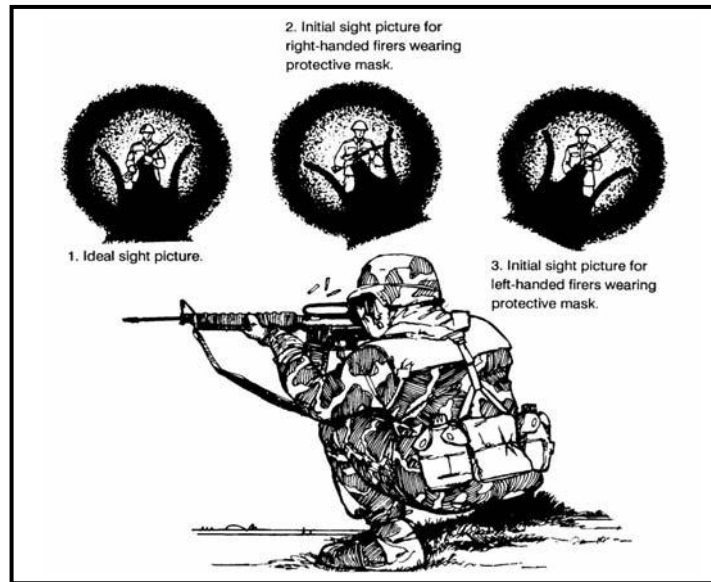

Figure 7-18. Sight picture when canting the rifle while wearing a protective mask (75-meter target).
(2) **Aiming.** Wearing a protective mask may force firers to rotate (cant) the rifle to see through the rear aperture. The weapon should be rotated the least amount possible to see through and line up the sights. The center tip of the front sight post should be placed on the ideal aiming point. This ideal aiming procedure (Figure 7-18) should be the initial procedure taught and practiced.